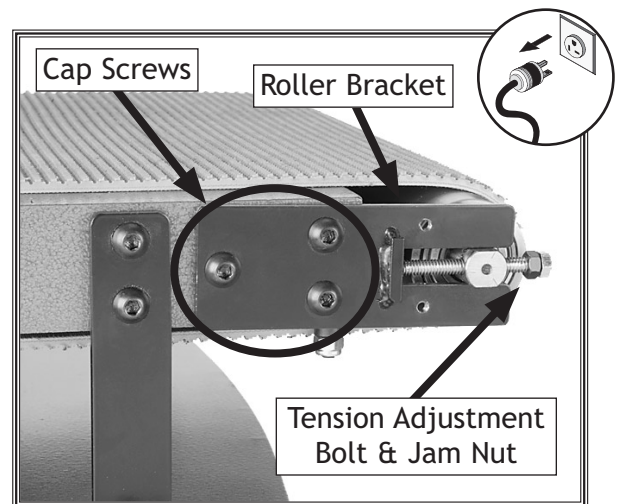

Figure 37. Roller bracket mounting cap screws and conveyor tension adjustment bolt.
3. Loosen the conveyor tension jam nuts on either side of the conveyor (see **Figure 37**), then release the tension on the conveyor belt by loosening the tension adjustment bolts.
4. Remove the three cap screws securing the *left* front roller bracket shown in **Figure 37**, then, while supporting the front conveyor roller assembly with one hand, remove the bracket.